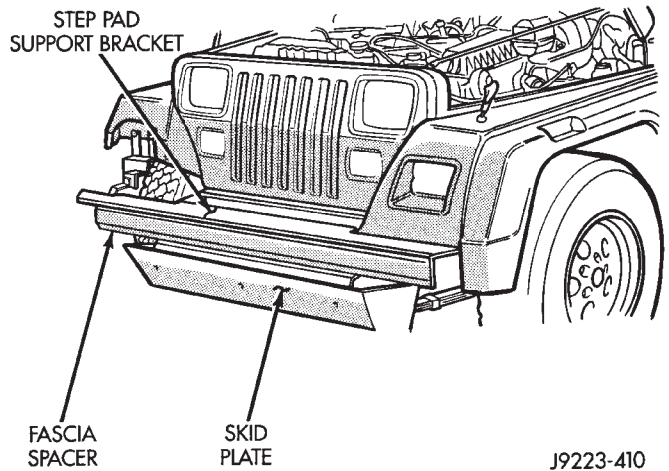

Fig. 48 Front Fascia Removed
- (3) Remove the fascia push pins from the fascia support and retaining bolts from the skid plate. Remove the fascia from the frame crossmember (Fig. 48).